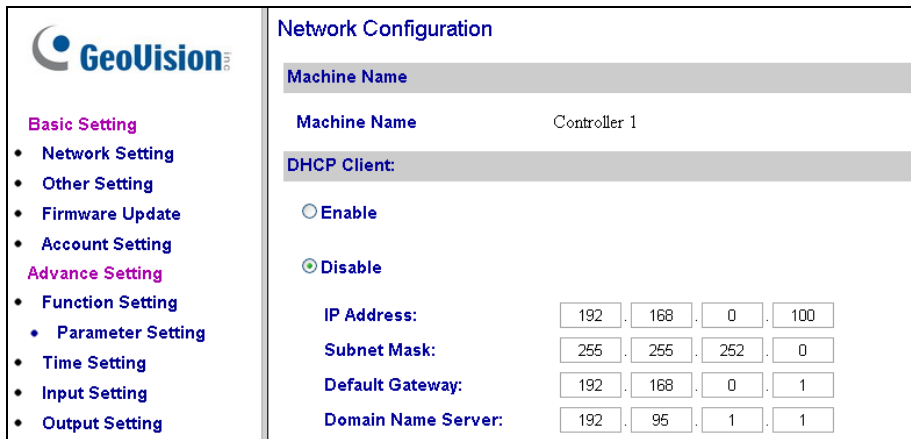

Figure 7-2
- Open the browser and enter the assigned IP address of GV-AS Controller. The Network Configuration page appears. See Figure 7-2.